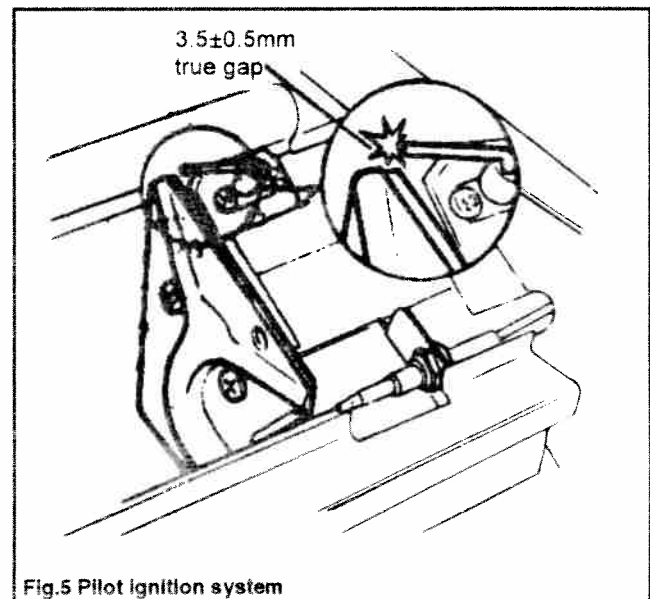

Fig.5 Pilot Ignition system
6.2 Check ignition electrode spark (see figure 5)